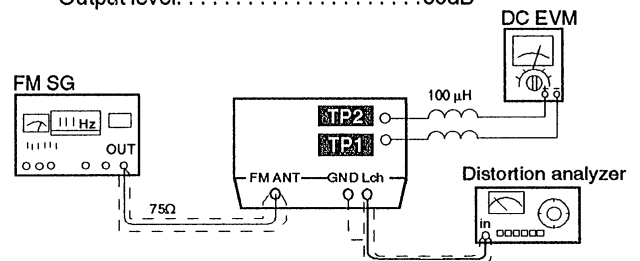

Fig. 2
1. Test equipment connection is shown in Fig. 2.